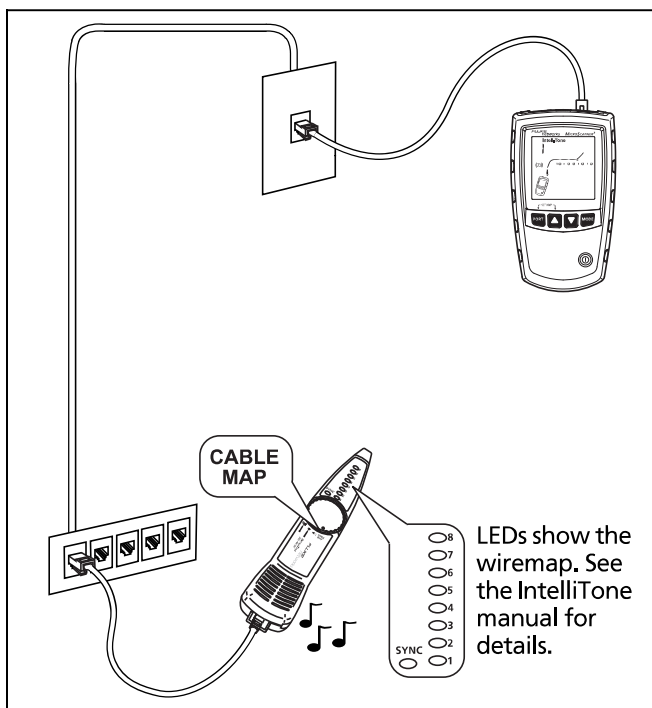

Figure 36. Using the Toner with the IP200 IntelliTone Cable Map Function
- 3 Connect the tester and probe to the cabling as shown in Figure 36.
- 4 Press  or  until  appears on the display. IntelliTone mode is indicated by **IntelliTone** and a scrolling pattern of 1s and 0s on the display. See Figure 36.